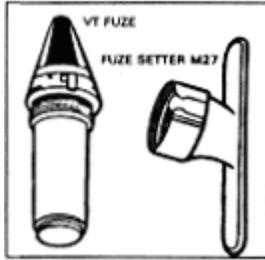

Figure 3-26. VT fuze and M27 fuze setter
4. **Proximity (VT) fuzes.**
Each proximity (VT) fuze (Figure 3-26) has a clocklike mechanism set to control the activation of the radio transmitter and receiver in the fuze. These fuzes may be set as many times as necessary. The proximity (VT) fuze is essentially a combination radio transmitter and receiver. At a set time (from 5 to 100 seconds) after the projectile leaves the muzzle of the weapon, the radio is activated and begins sending out